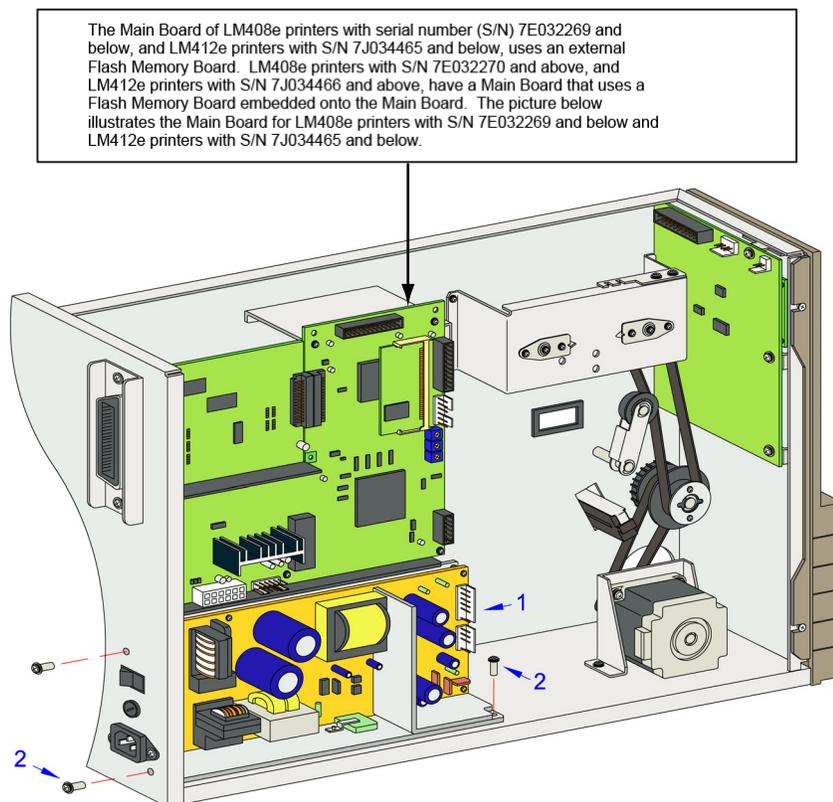

Figure 7-9, Power Board Replacement
3. Disconnect all wiring harnesses from defective power board (1, Figure 7-9) from other printer components.
4. Remove three screws (2) securing defective power board (1) to the printer.